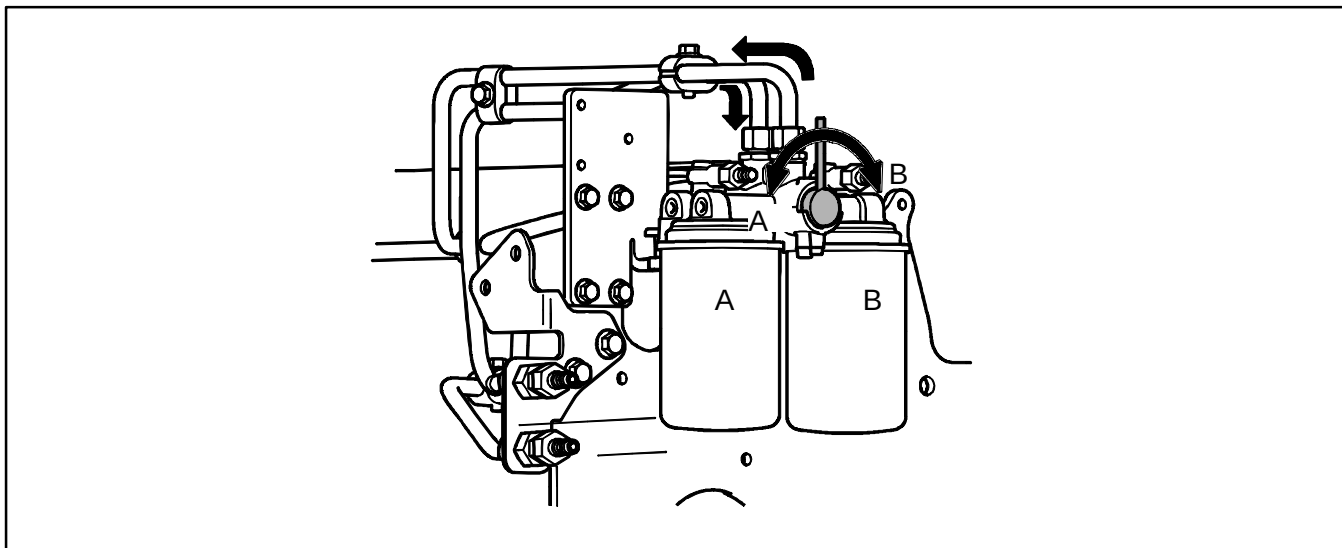

Figure 15 Bleeding Duplex Fuel Filters (Option)
1. Turn the rotary control 90° to the right so that it points towards Filter B. The fuel then flows through the filter. See **Figure 15**.